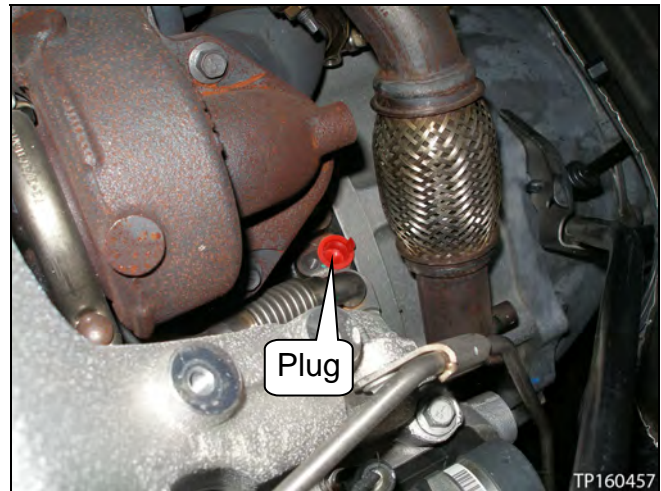

Figure 95
- a. Remove the plug (see Figure 95).
- d. Guide the oil dipstick tube further into the first hole at an angle, and then into the second engine block hole until fully seated (see Figure 95, 96 and 97).